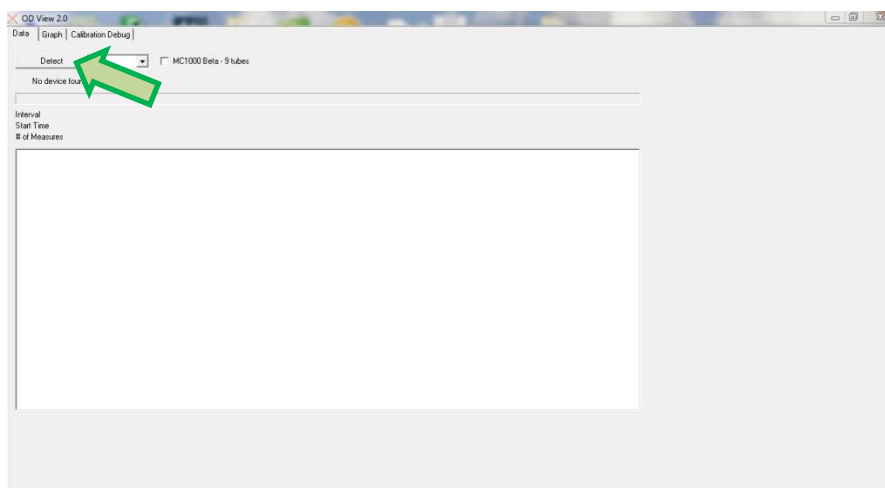

Fig. 21 The initial window of the ODView program
35. Copy the ODView software from the Flash Disc onto the PC computer first. Run the software. The initial screen will appear as shown in Fig. 21.